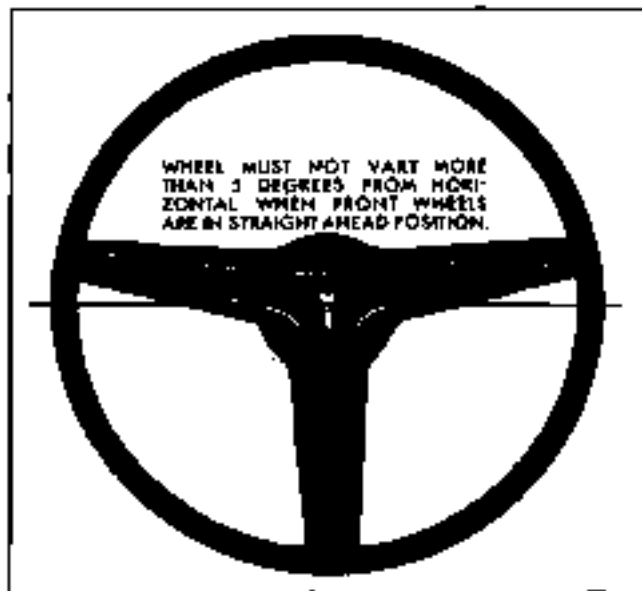

Fig. 9-2 Locating Steering Wheel Position
1. Install by reversing above steps, making sure steering wheel is in straight ahead position (Fig. 9-2). Tighten steering wheel nut to 30 lb. ft. torque and stake.